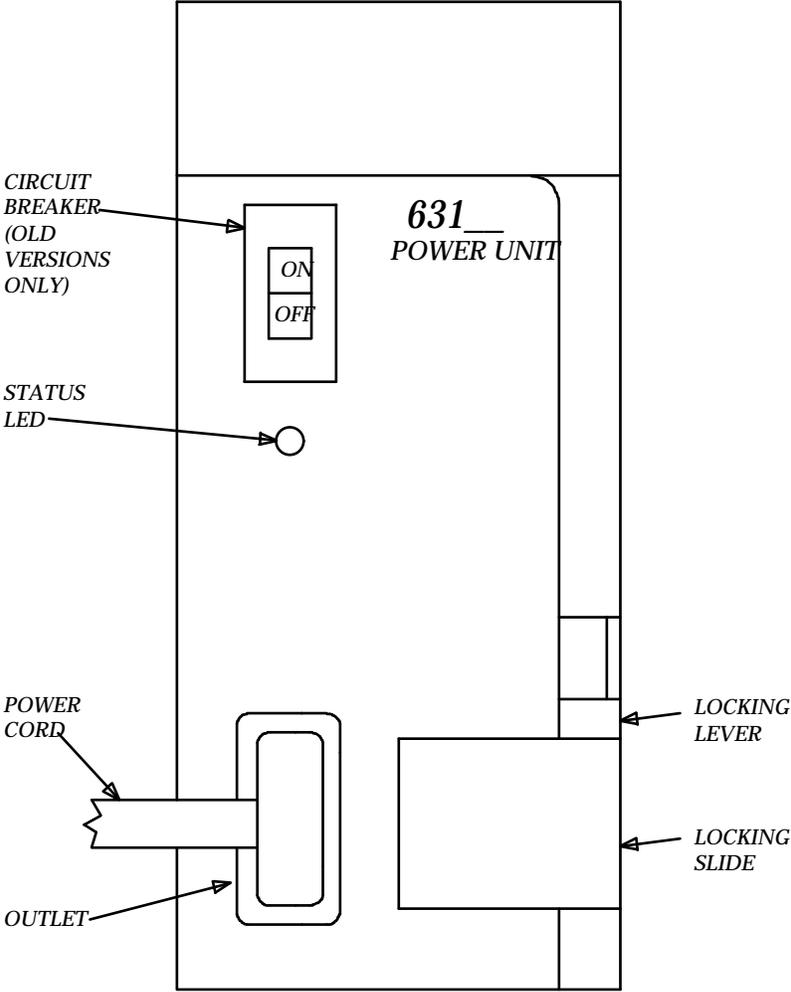

FIGURE 4-27. 631-Type Power Unit
17. Connect the power cords to the power units. The power cords are the white cables equipped with plugs that are run through the slots in the front of each carrier (see Figure 4-27).